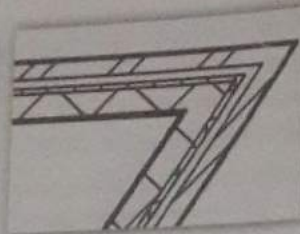

Figure 56: Miter Join
- b. **Miter Join**: It creates a miter join between the walls. All joins less than 20 are mitered (Figure 56).